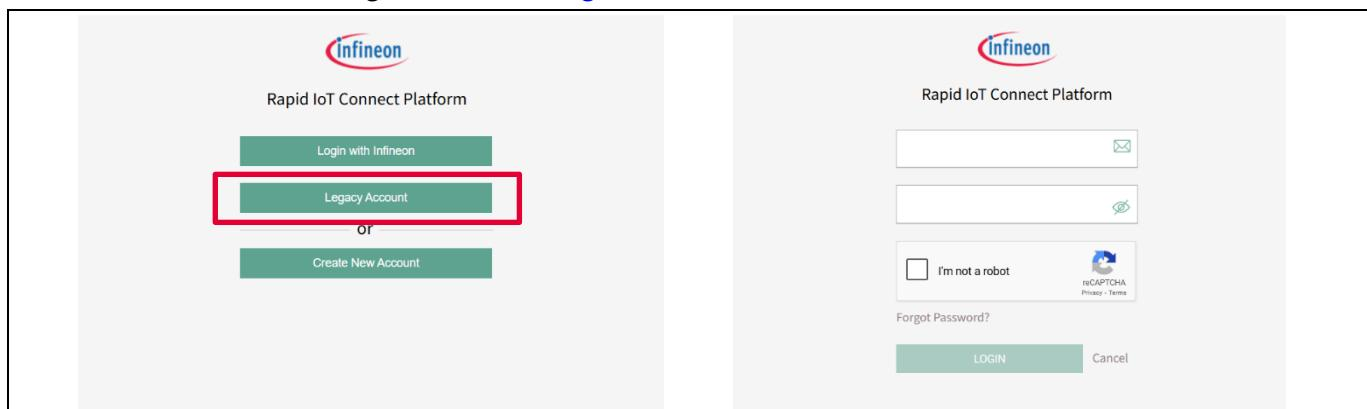

Figure 7 **Rapid IoT Connect Cloud Platform login**
3. Enter the credentials to login as shown in Figure 7